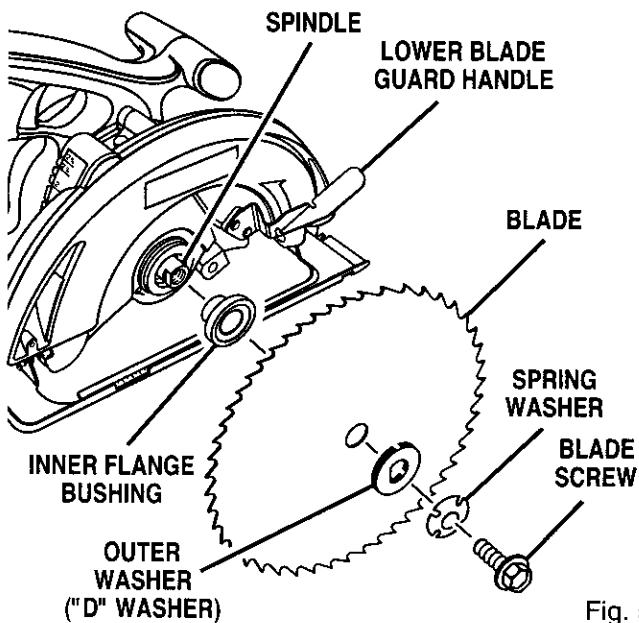
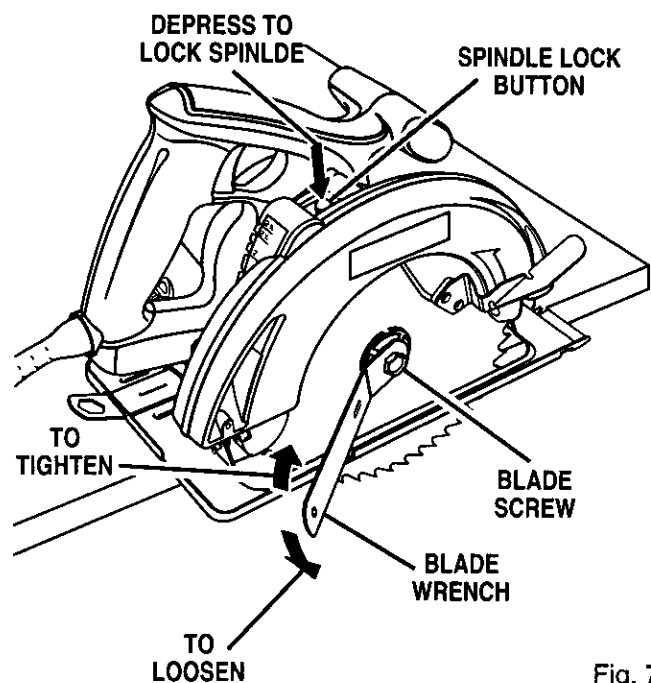

Fig. 5
Fig. 7
See Figures 5, 6, and 7.
- Position your saw as shown in Figure 7, depress spindle lock button, and remove blade screw. See Figure 5.
- Remove spring washer, and outer blade washer ("D" washer). See Figure 5.
- Fit saw blade inside lower blade guard and onto spindle. **Note:** The saw teeth point upward at the front of saw as shown in Figure 5.
- Position your saw as shown in Figure 7, depress spindle lock button, and remove blade screw. **Note:** Turn blade screw counterclockwise to remove.
- Remove spring washer and outer blade washer ("D" washer). See Figure 5.